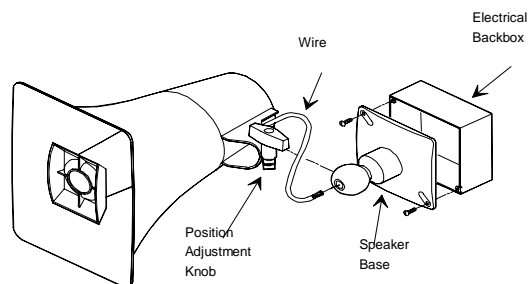

Figure 3 - Mounting to an Electrical Backbox
- Connection to an electrical backbox is accomplished by channeling wire through the ball of the base (see Figure 3) and making appropriate connections. The base has holes punched for a double-gang square box, but by punching out additional knockout holes, the base can be mounted to a single-gang or octagon box.